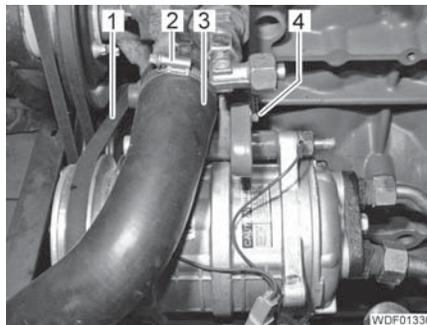

Fig. 404 Motor of the air-conditioning compressor
- Undo the clamp (Fig. 404,2) and pull off the hose (Fig. 404,3).
- Unscrew the screw (Fig. 404,4).
- Screw in the screw (Fig. 404,4).
- Tension the V-belt pulley (Fig. 404,1) and tighten the screw (Fig. 404,4).
- Attach the hose (Fig. 404,3) with clamps (Fig. 404,2) onto the connector on the engine.
- Tighten the clamp (Fig. 404,2).